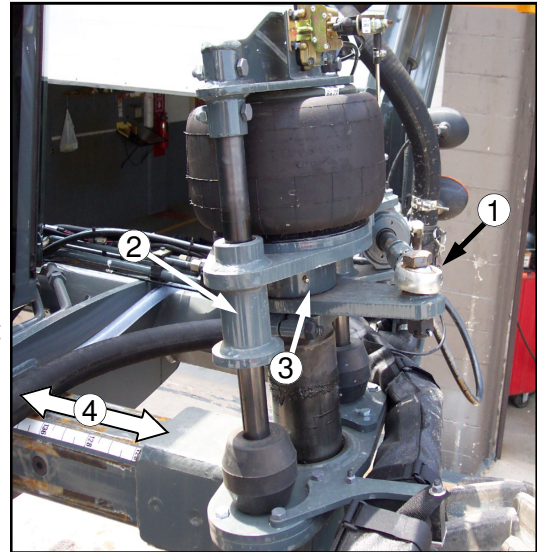

FIG. 7.14-1
LEGS AND STEERING– The front legs have a grease zerk in the tie rod ball (figure 7.14-1, item 1) that needs greased every 50 hours or weekly.
Both the front and rear legs have two grease zerks, one in each of the tower bearings (figure 7.14-1, item 2) that must be greased every 50 hours or as necessary. There is a zerk in the collar (figure 7.14-1, item 3) that also needs greased every 50 hours or as necessary.
The slide path of the tread adjust (figure 7.14-1, item 4) should be greased every 50 hours depending on the amount of usage.